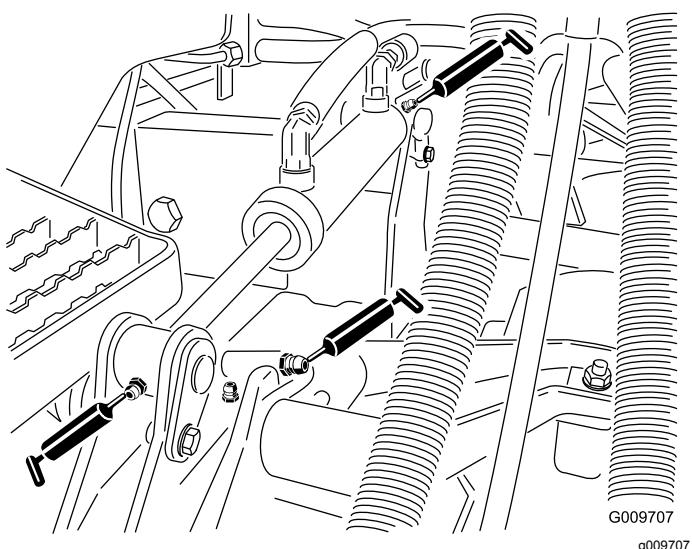

Figure 24
- Lift cylinder bushings (2 per deck) (Figure 24)